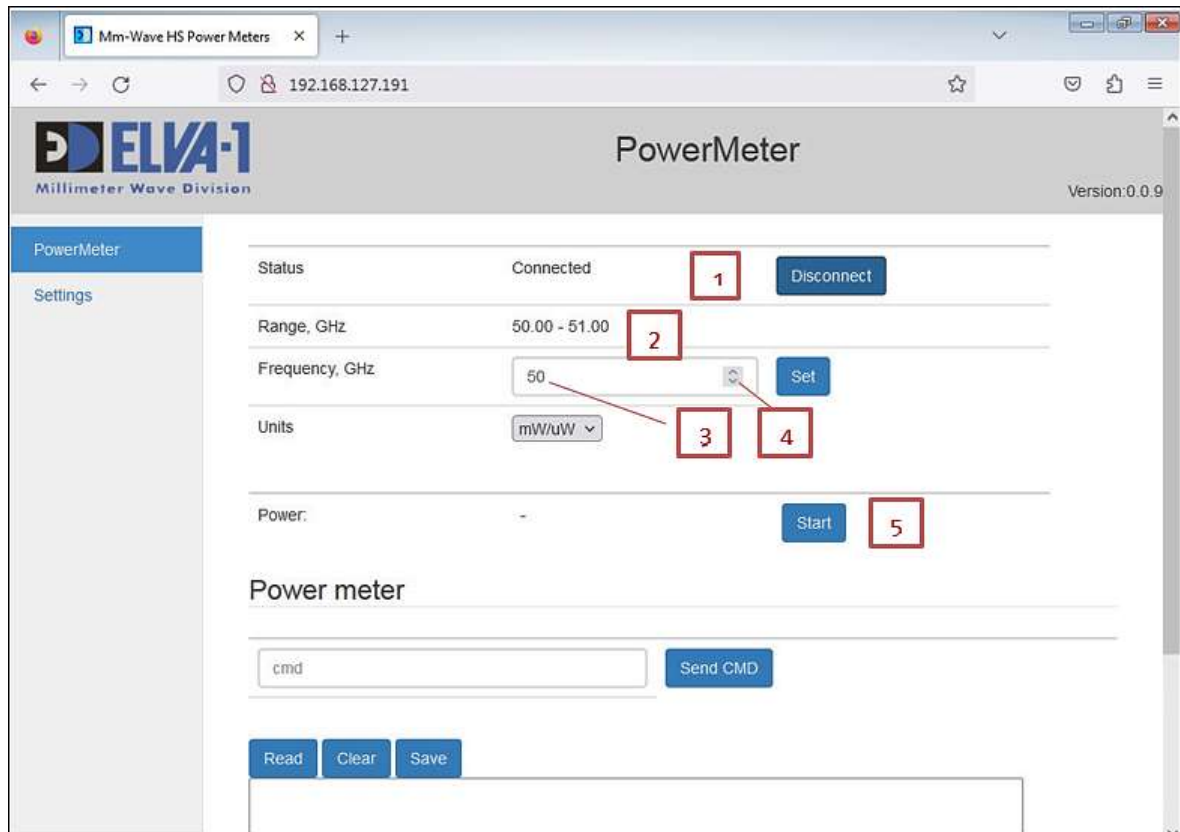
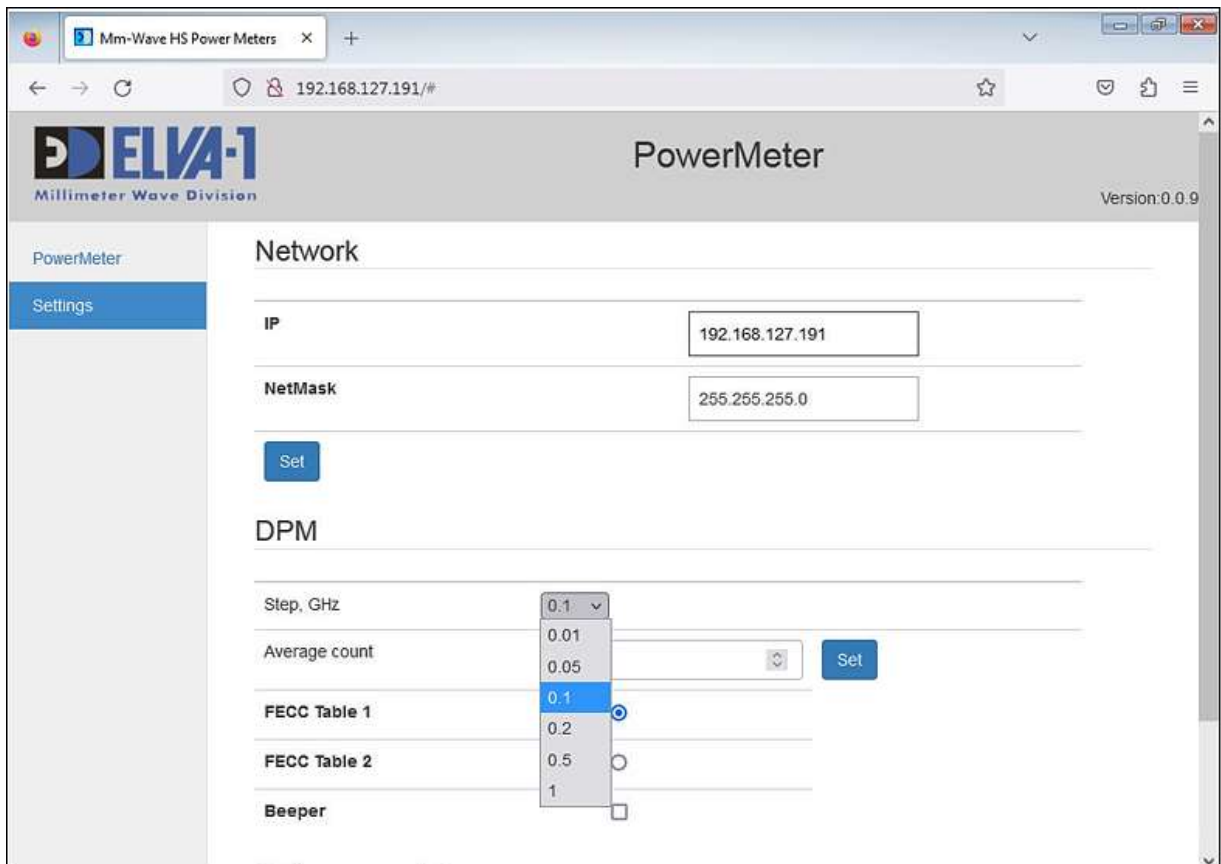

Fig. 2. Web interface after the 'Connect' button has been pressed
Fig.11. Frequency tuning step values
- Click the 'Connect' button to proceed. The 'Disconnect' status will change to 'Connect' [refer to marker #1 in Fig. 2], the operating frequency range will be displayed [refer to marker #2 in Fig. 2], and all DPM functions will become available.
- Set the frequency [marker #3, Fig. 2]. There are two ways to do this:
- Use the arrows to change the frequency by the step specified in Settings [marker #4, Fig. 2].
- Click the 'Start' button to begin displaying the measured power [marker #5, Fig. 2].
- This setting determines the frequency tuning step using arrows [marker #4, Fig. 2]. You can select values from the dropdown list [Fig. 11].
### 4. **FECC Table 1/2** [marker #4, Fig. 11]
### 5. **Beeper** [marker #5, Fig. 11]:
### 6. **Software Update** [marker #6, Fig. 11]:
- To perform a software update, press the 'Browse' button [marker #7, Fig. 11] to select the update file.
- Then, click the 'Submit Query' button [marker #8, Fig. 11]. Subsequently, an information page will appear [Fig. 14]. Please wait until DPM device restarts.